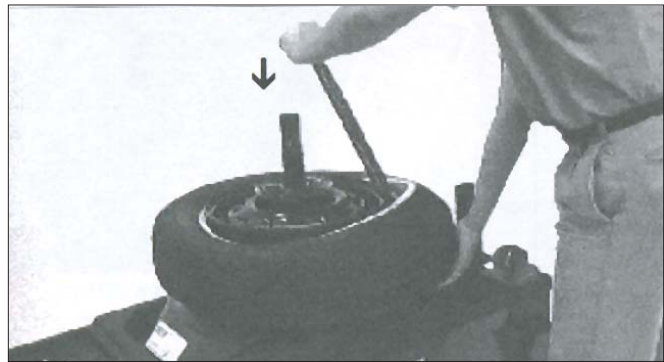

Figure 6 - Align, Insert, and Push Down on the Tool
**8.** Position the combination tool so that it aligns with the center post key. Insert the demount end of the tool between the tire and rim. Push the tool down towards the center post as shown in figure 6 to lift the tire bead over the rim.
**IMPORTANT:** Make sure the tool is oriented as shown in figure 6.